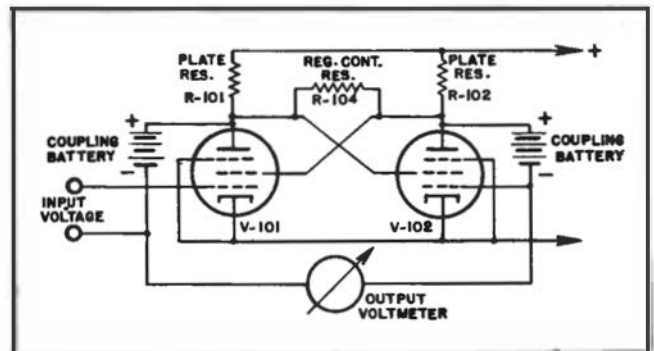
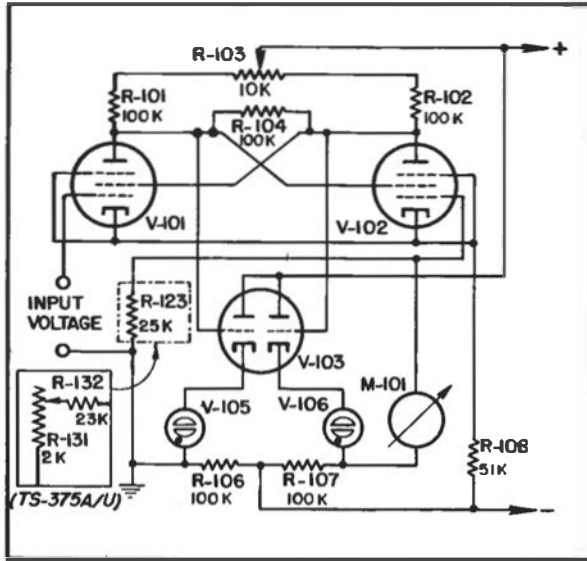

Figure 3-2. D-C Amplifier, Simplified Circuit
Figure 3-3. D-C Amplifier, Practical Circuit
d. D-C AMPLIFIER.—(See figures 3-2 and 3-3.) The d-c amplifier is designed to receive the input voltage to be measured from the probe without drawing appreciable current from the circuit being measured, and drive the relatively insensitive indicating instrument in response to this input voltage. The amplifier must have a high degree of stability to maintain calibration accuracy.
c. CIRCUIT DESCRIPTION.—The action of the amplifier is illustrated by the simplified functional diagram of figure 3-2. The circuit is essentially a bridge with the two amplifier tubes and the two plate resistors forming the four bridge arms. The d-c input voltage is impressed upon the control grid of the left hand amplifier tube (V-101) while the right hand amplifier tube (V-102) serves as a compensating tube to minimize supply voltage variations and drift effects upon the bridge balance. The regenerative action is obtained by cross-connecting the plates and screen grids of the tubes in the manner of a multi-vibrator type of oscillator. The screen grids then serve as secondary control electrodes rather than as screen grids in the conventional sense. The cross-connected resistor (R-104) serves as a control of the degree
b. **PRACTICAL CIRCUIT.**—The practical amplifier circuit is shown in figure 3-3. It is entirely similar in function to the simplified circuit of figure 3-2 but the addition of certain components is dictated by practical circuit limitations and operating conditions.
(1) Voltage regulator tubes (V-105 and V-106, Type 991) replace the coupling batteries. The low variational resistance characteristic to this type of regulator tube is similar in effect to a battery.
(2) The voltage regulator tubes require a continuous keep-alive current, necessitating the addition of keep-alive bleeder resistors (R-106 and R-107, 100,000 ohms each) from each tube to the negative (—) plate supply lead.
(3) The keep-alive current required by the coupling tubes would be an excessive current drain from the amplifier tube plate circuit proper so a twin-triode tube is added as a cathode follower between the amplifier plates and the loaded coupling tube circuits. No further